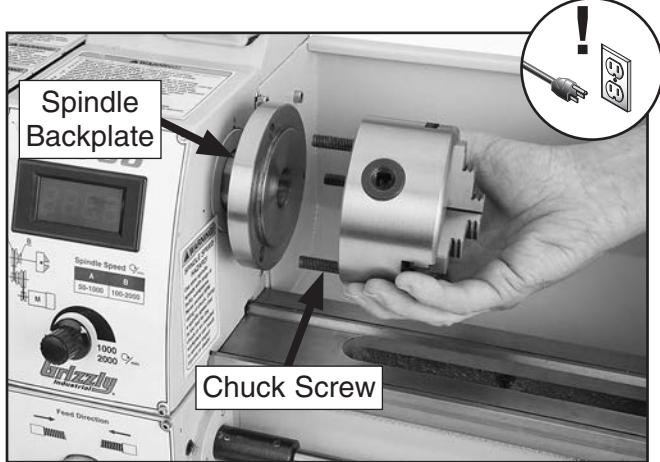

Figure 25. Inserting chuck into backplate.
4. Insert (3) M8-1.25 X 35 set screws through mounting holes in spindle backplate, as shown in **Figure 25**. Make sure chuck seats firmly and evenly against backplate shoulder.